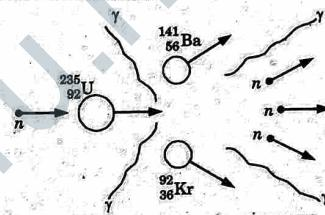

Fig. 2.14.1. Nuclear fission.
4. The diagrammatic sketch is given in Fig. 2.14.1. A neutron strikes the  ${}_{92}^{235}$  U nucleus and in the process two nuclides  ${}_{56}^{141}$  Ba and  ${}_{36}^{92}$  Kr are formed with the release of 3 neutrons.